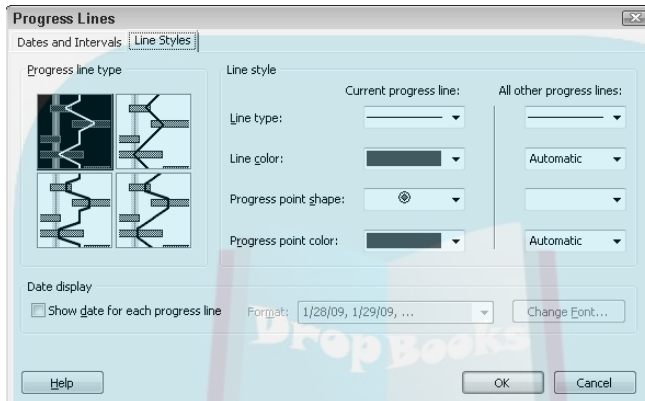

Figure 14-5:
2. Click the **Line Styles** tab, if necessary, to display the options shown in **Figure 14-5**.